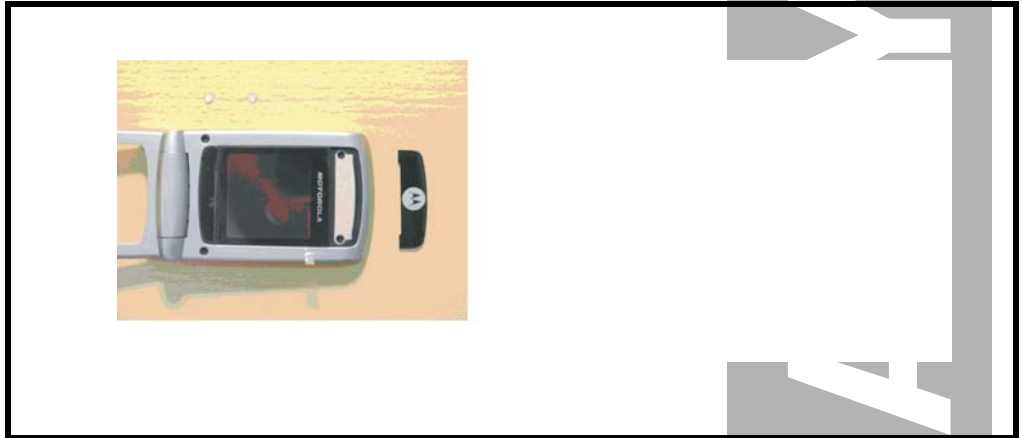

Figure 26. Disassembling the Screw Cover and Screw Cap
3. Completely disassemble the screw cover and screw cap as shown in Figure 26.